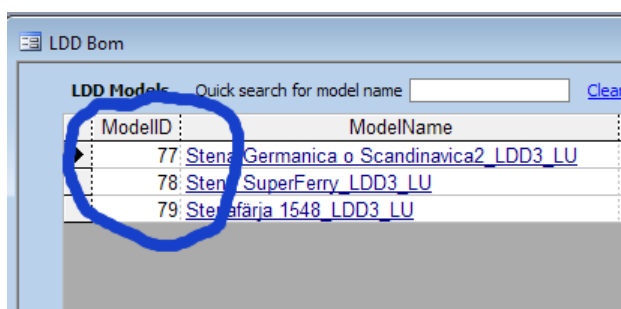

Figure 17 - Make not of the two models you wish to compare
1. In the Model window (Figure 17), find the Model number for the two models you want to compare.